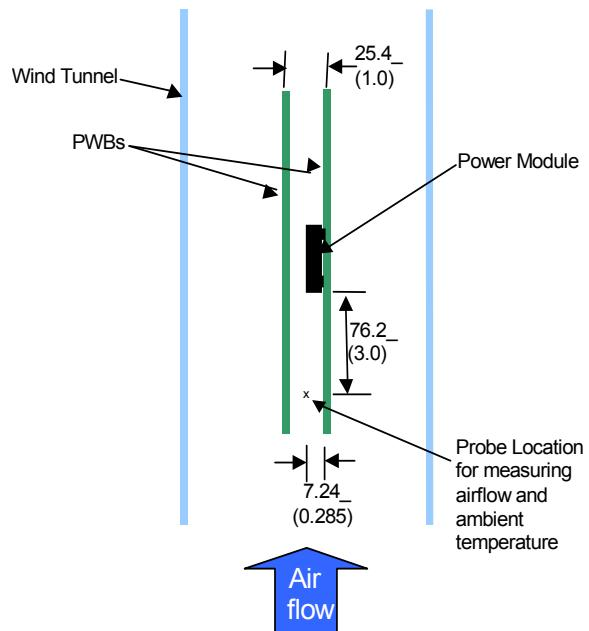

Figure 33. Thermal Test Set-up.
To provide over temperature protection in a fault condition, the unit relies upon the thermal protection feature of the controller IC. The unit will shutdown if the thermal reference point T_{ref2} , (see Figure 33) exceeds $140^{\circ}C$ (typical), but the thermal shutdown is not intended as a guarantee that the unit will survive temperatures beyond its rating. The module will automatically restart after it cools down.
Considerations include ambient temperature, airflow, module power dissipation, and the need for increased reliability. A reduction in the operating temperature of the module will result in an increase in reliability. The thermal data presented here is based on physical measurements taken in a wind tunnel. The test set-up is shown in Figure 33. Note that the airflow is parallel to the long axis of the module as shown in Figure 32. The derating data applies to airflow in either direction of the module's long axis.